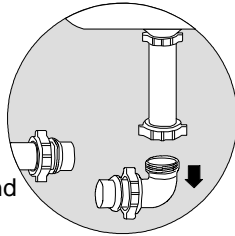
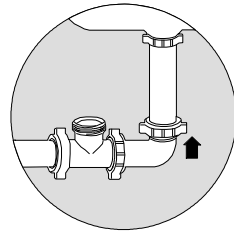

FIG. 8
FIG. 9
2. Slip nut and beveled waster over both ends of the cut tube, then insert the 3-way repair tee in the following manner: Loosen the nut on the horizontal waste ell where it joins the vertical tailpiece. (See Fig. 8) Remove the short “ell” piece by pulling down the tailpiece. (Fig. 8), then put cut ends of ell into a tee and tilt vertical end back up over tailpiece and re-secure nut. Rotate tee so that the side outlet is facing straight up, then firmly tighten both nuts to tee. (See Fig. 9)